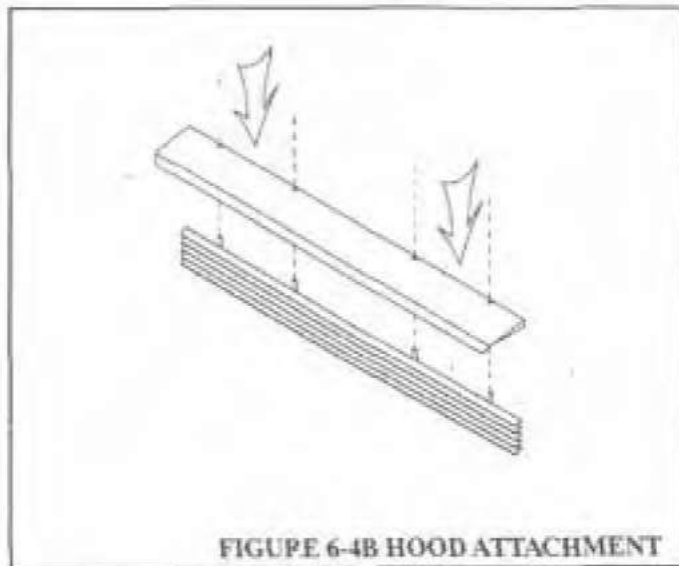

FIGURE 6-4B HOOD ATTACHMENT
3. Place the decorative hood attachment over the vertical rods of the upper grille. Refer to Figure 6-4b.